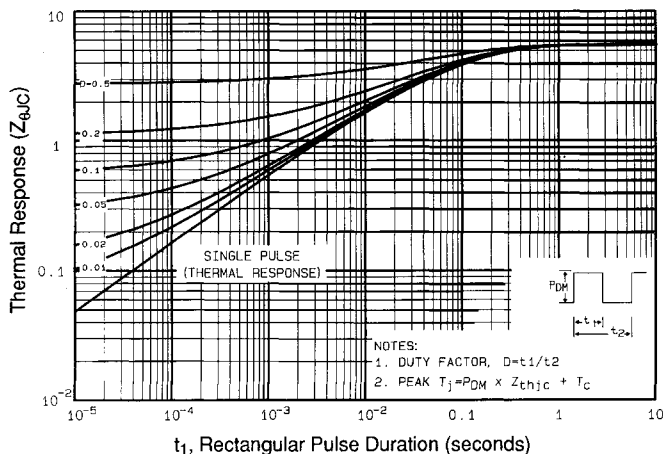

Fig 11. Maximum Effective Transient Thermal Impedance, Junction-to-Case
- ① Repetitive rating; pulse width limited by max. junction temperature (See Figure 11) ③ $I_{SP} \leq 10\text{A}$, $di/dt \leq 90\text{A}/\mu\text{s}$, $V_{DD} \leq V_{(BR)DSS}$, $T_J \leq 175^\circ\text{C}$ ⑤ $t=60\text{s}$, $f=60\text{Hz}$
- ② $V_{DD}=25\text{V}$, starting $T_J=25^\circ\text{C}$, $L=1.2\text{mH}$ ④ Pulse width $\leq 300\mu\text{s}$; duty cycle $\leq 2\%$